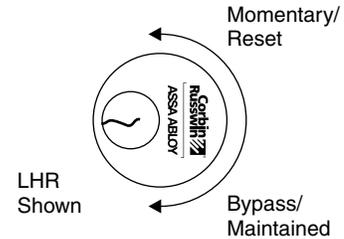

Figure 14
There are three (3) modes of operation (Figure 14):
#### Momentary Egress Mode (Figure 14)
#### Bypass (Maintained) Egress Mode (Figure 14)
#### Resetting device from Bypass Mode to Delayed Egress Mode (Figure 14)